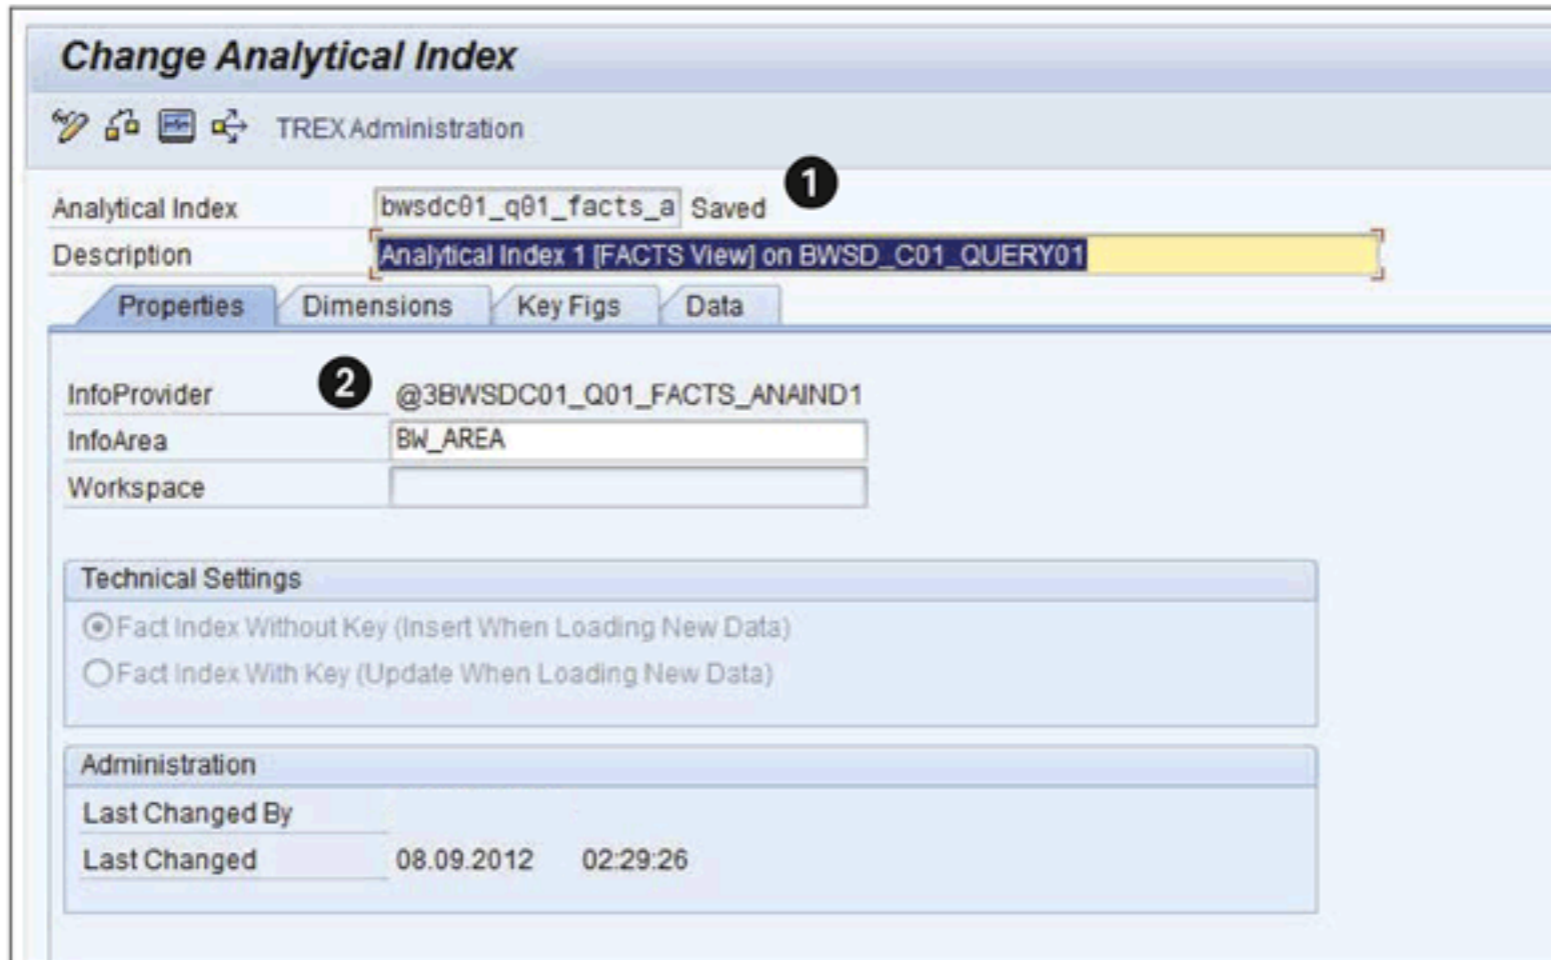
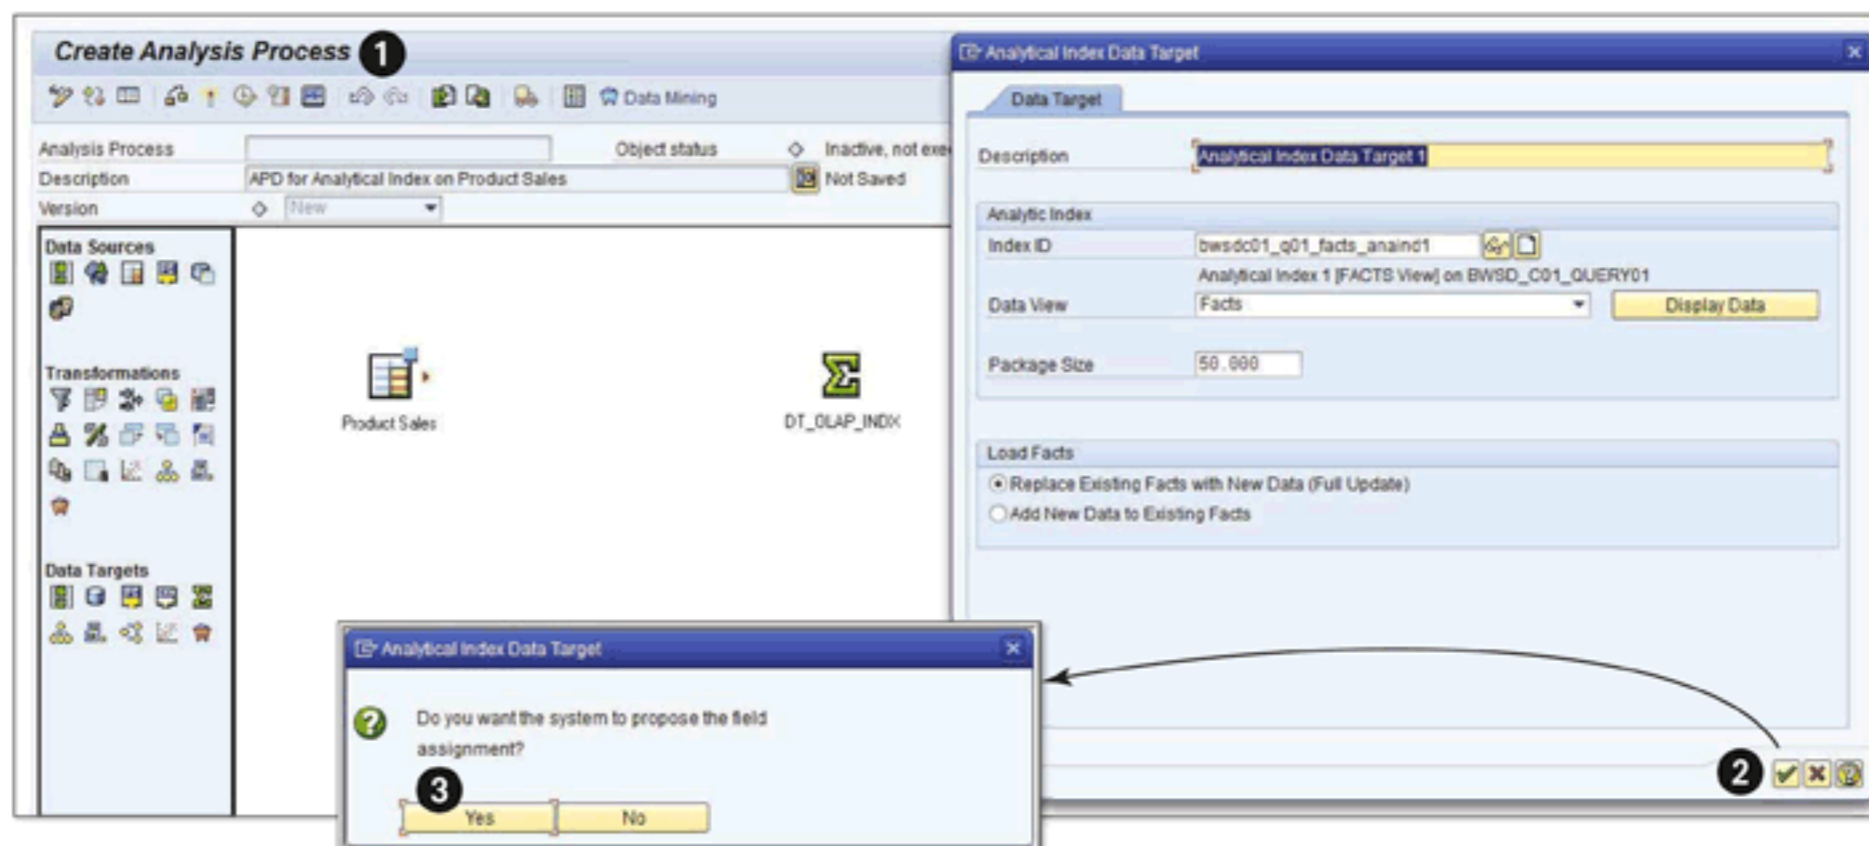
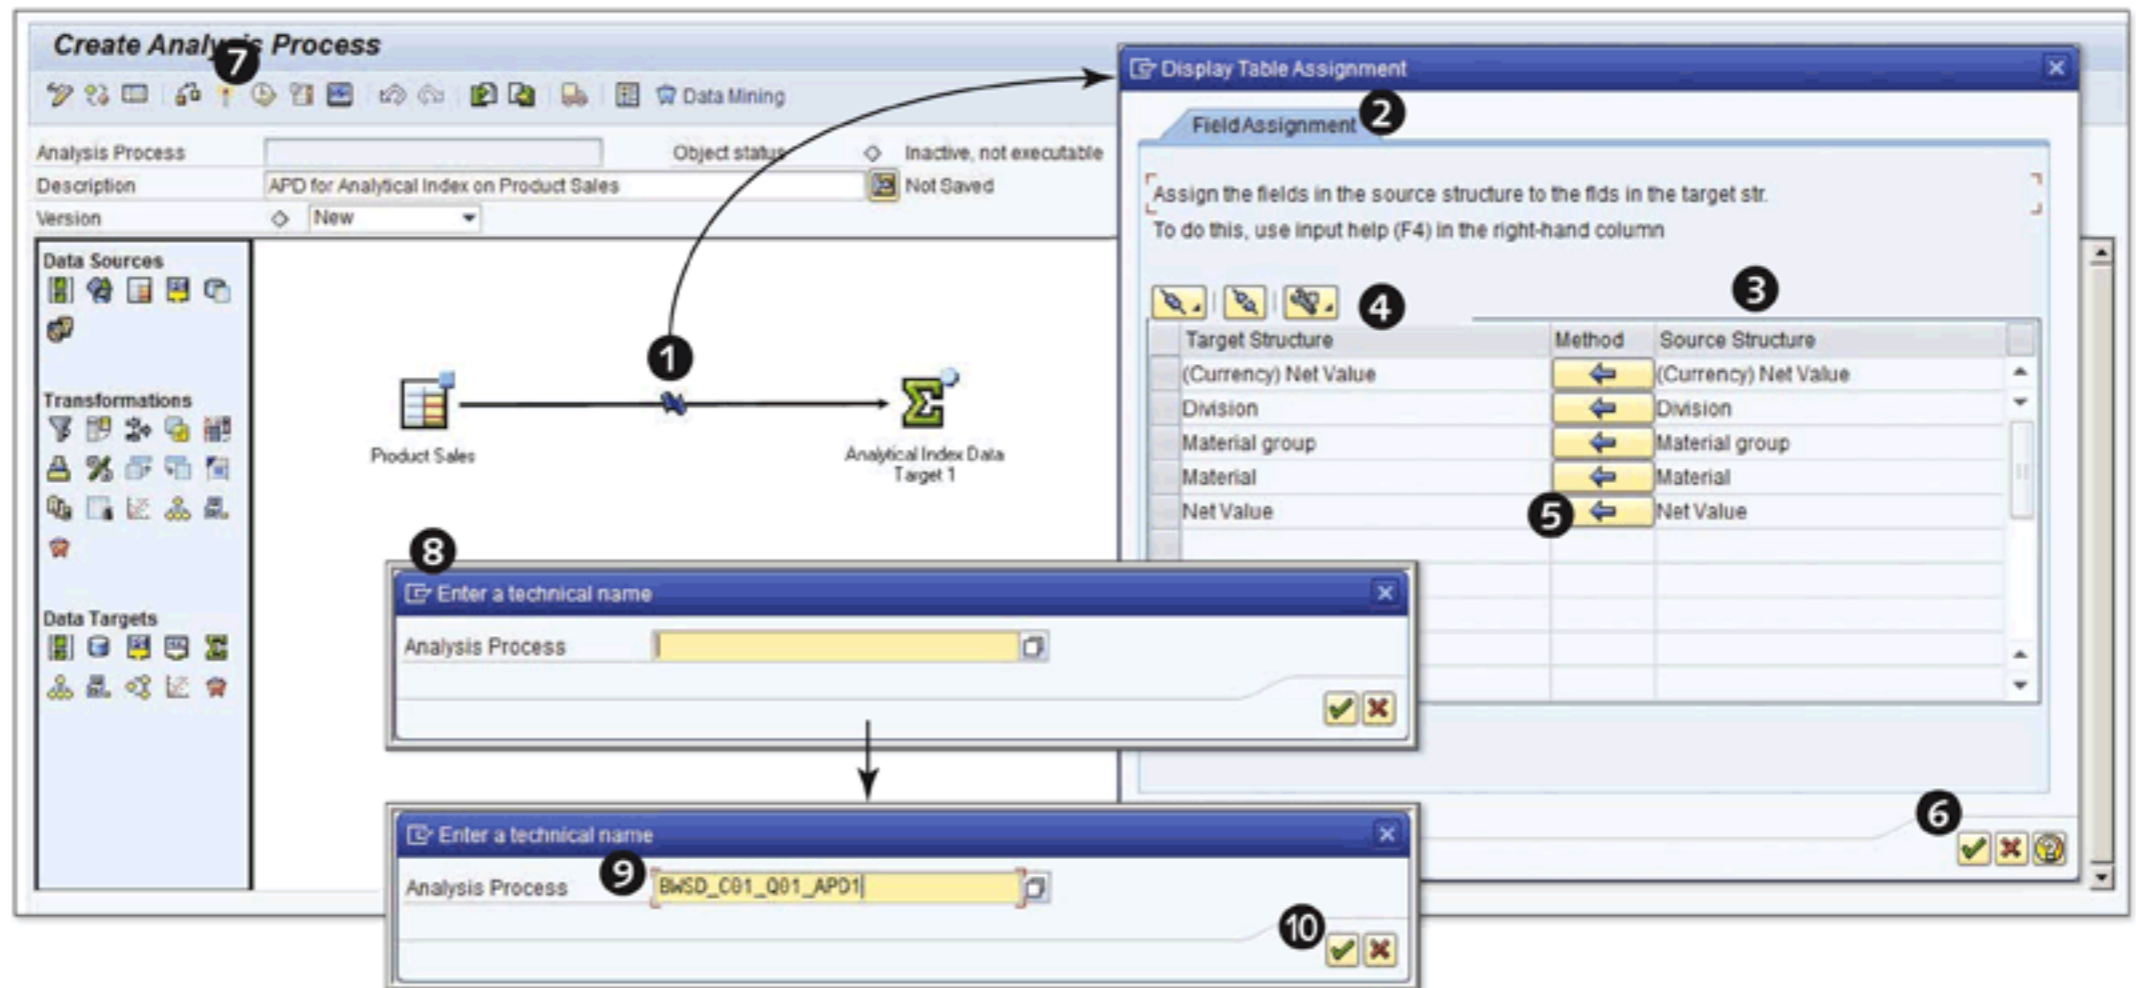

Figure 15.19 Analytical Index Activated
Figure 15.20 Proposing Field Assignments
Figure 15.21 Activating APD
As shown in ❶ of Figure 15.19, the status of the analytical index is changed from NEW to SAVED. The system has assigned a name to InfoProvider @3BWSDC01_Q01_FACTS_ANAIND1, as shown in ❷ of Figure 15.19. Use the BACK button to return to the ANALYTICAL INDEX DATA TARGET screen, as shown in Figure 15.20.
Click on CONTINUE (❷ of Figure 15.20) to display the pop-up message box. Select YES (❸) to instruct the system to provide proposals for assigning the source structure to the target structure. Here the source is QUERY and the target is ANALYTICAL INDEX. Click on YES to join the query to the analytical index with transformations, as shown in Figure 15.21.
The transformation between source and target is shown in ❶ of Figure 15.21. Double-click on the icon and the FIELD ASSIGNMENT pop-up box appears (❷). On the right side, elements of the source structure are shown (❸), and on the left side, elements of the target structure are shown. The transformation between individual elements is shown using the arrow button that points from right to left (❹). Double-click on the arrow button to view the individual transformation and edit it. The default transformation has 1:1 assignment; click on OK (❺) to continue.